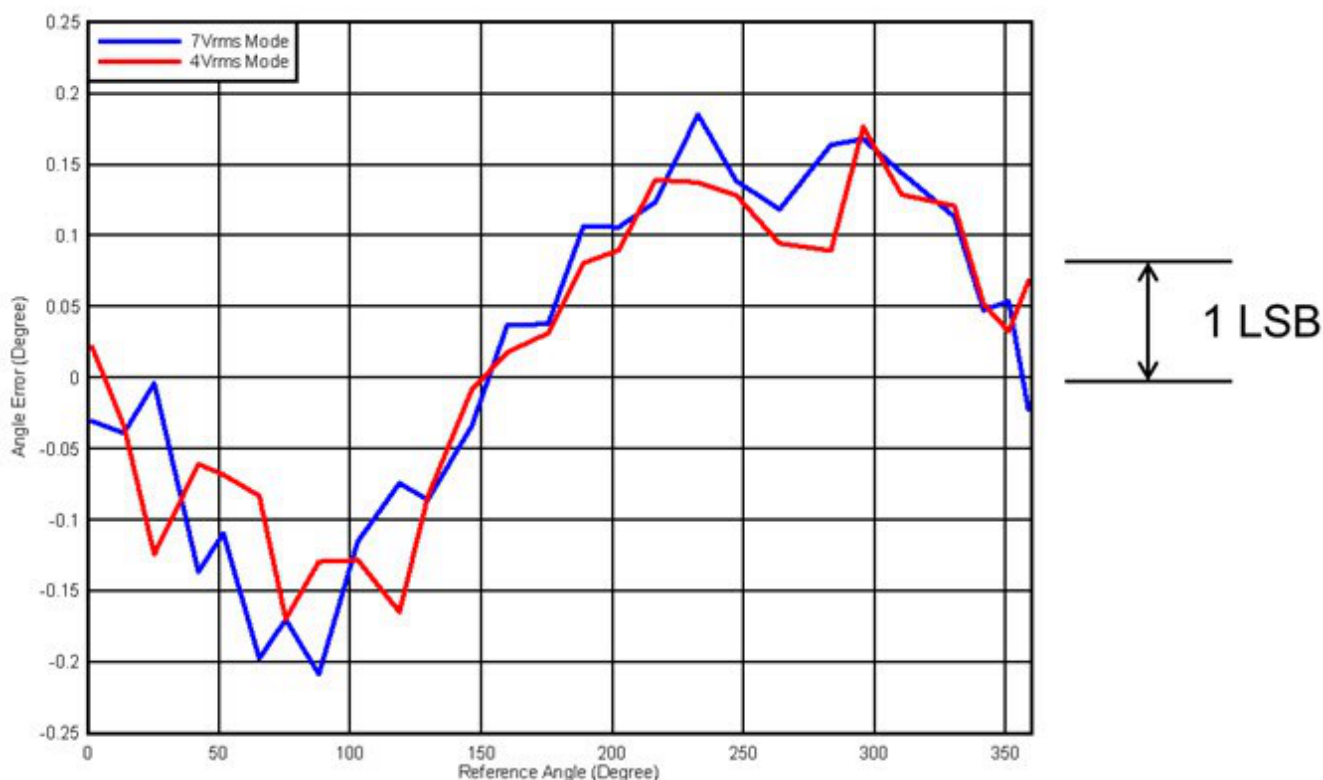

Figure 3. Angle Error with 7Vrms and 4Vrms Excitation Modes
- **Measured angular accuracy.** The angular accuracy test uses two exciter voltage modes, at 7Vrms and 4Vrms. Figure 3 shows the accuracy graph. Regardless of the mode and voltages used for excitation, the angle accuracy is better than ± 2.5 Least Significant Bit (LSB).